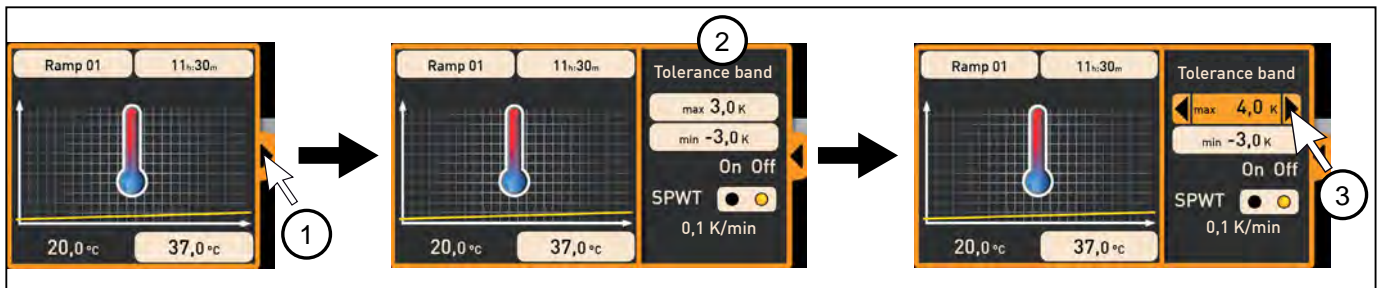

Fig. 6 Further adjustment options fold down after clicking on the arrow icon on the right edge of the window (1)
The main parameters have additional adjustment options, which can be displayed by clicking on the fold down icon (Fig. 6, No. 1). Here, the adjustable values – in the example below, the tolerance band and the setpoint dependency (SPWT) – also have a grey background (2) and can be adjusted after being clicked on (3).